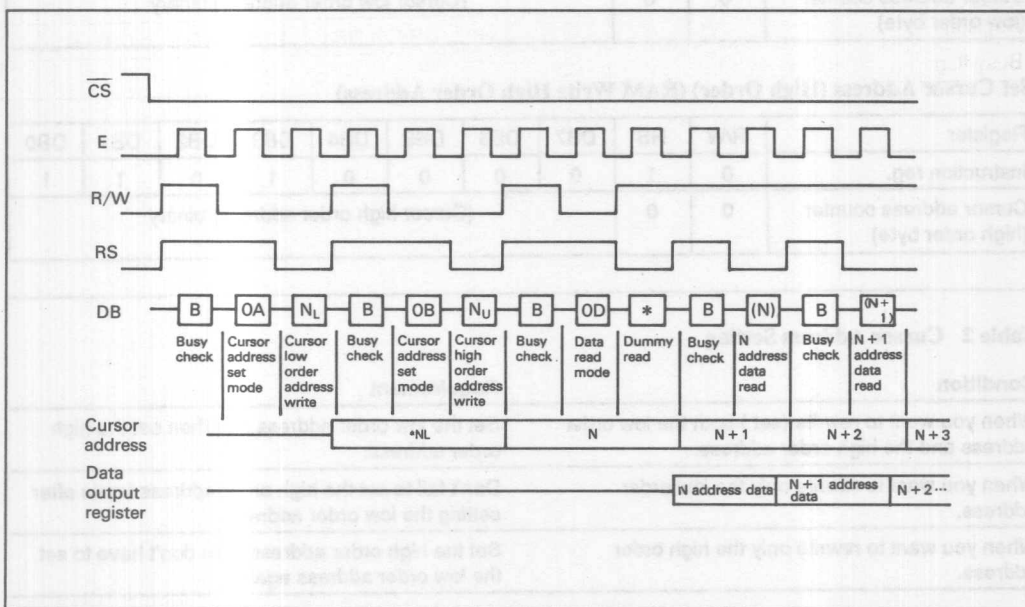

Figure 1 Read Procedure
**9. Read Display Data:** Data can be read from the RAM with RS = 0 after writing code "\$OD" into the instruction register. Figure 1 shows the read procedure.